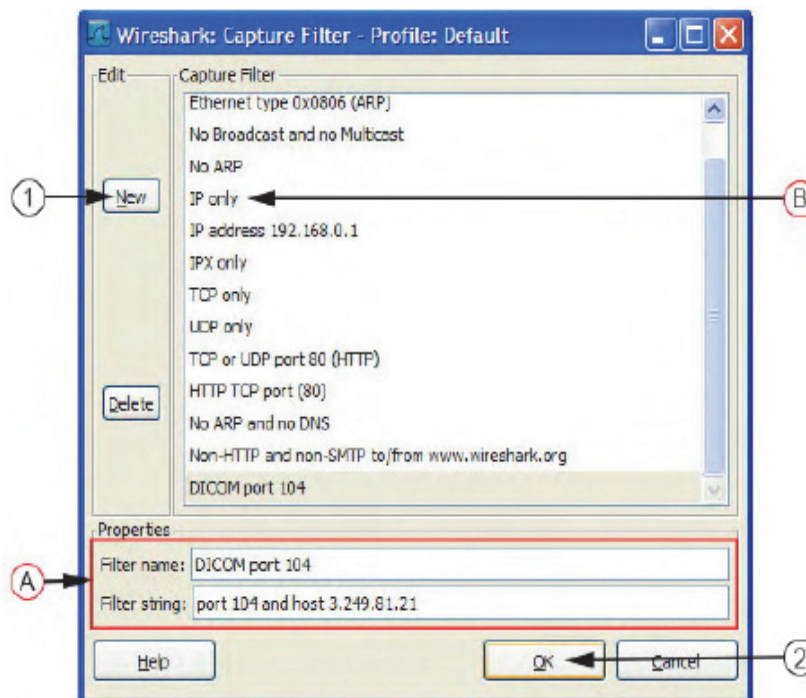

Figure 7-12 Capture Filter
- 1.) Click on CAPTURE FILTER (see: Figure 7-12 on page 7-14).
- 2.) Select *IP only* (B).
- 4.) Click OK (2).